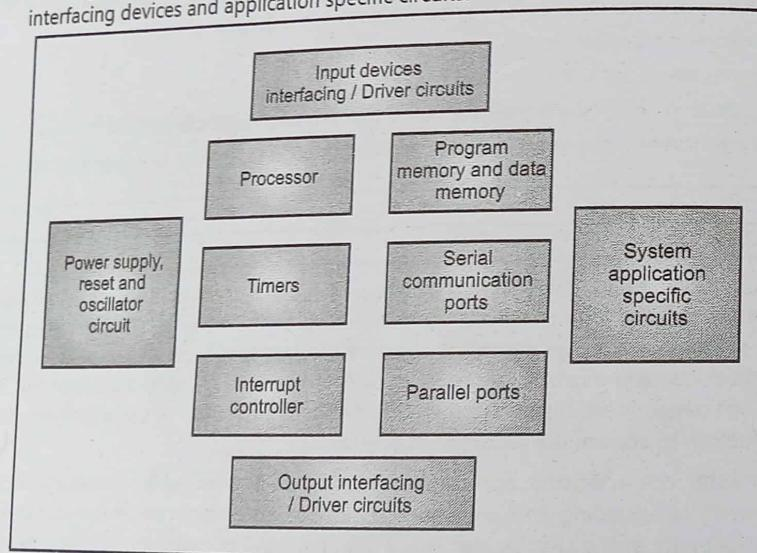

Fig. 1.1: Block diagram of Embedded system
- The block diagram of embedded systems is shown in Fig. 1.1.
- As shown in Fig. 1.1, embedded system consists of processor, program memory, data memory, processor, power supply, parallel ports, serial communication ports, I/O memory, processor, power supply, parallel ports, serial communication ports, I/O interfacing devices and application specific circuits.